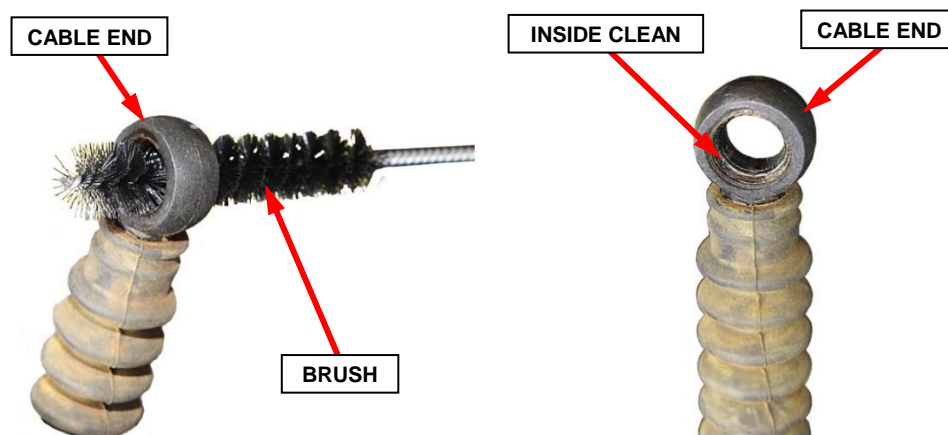

Figure 14 – Clean Cable End
8. Use a brush approximately 13 mm (1/2 in) diameter to clean the cable end removing any remaining bushing fragments and debris (Figure 14).
9. Ensure the cable end is free of bushing fragments and debris as shown in (Figure 14).